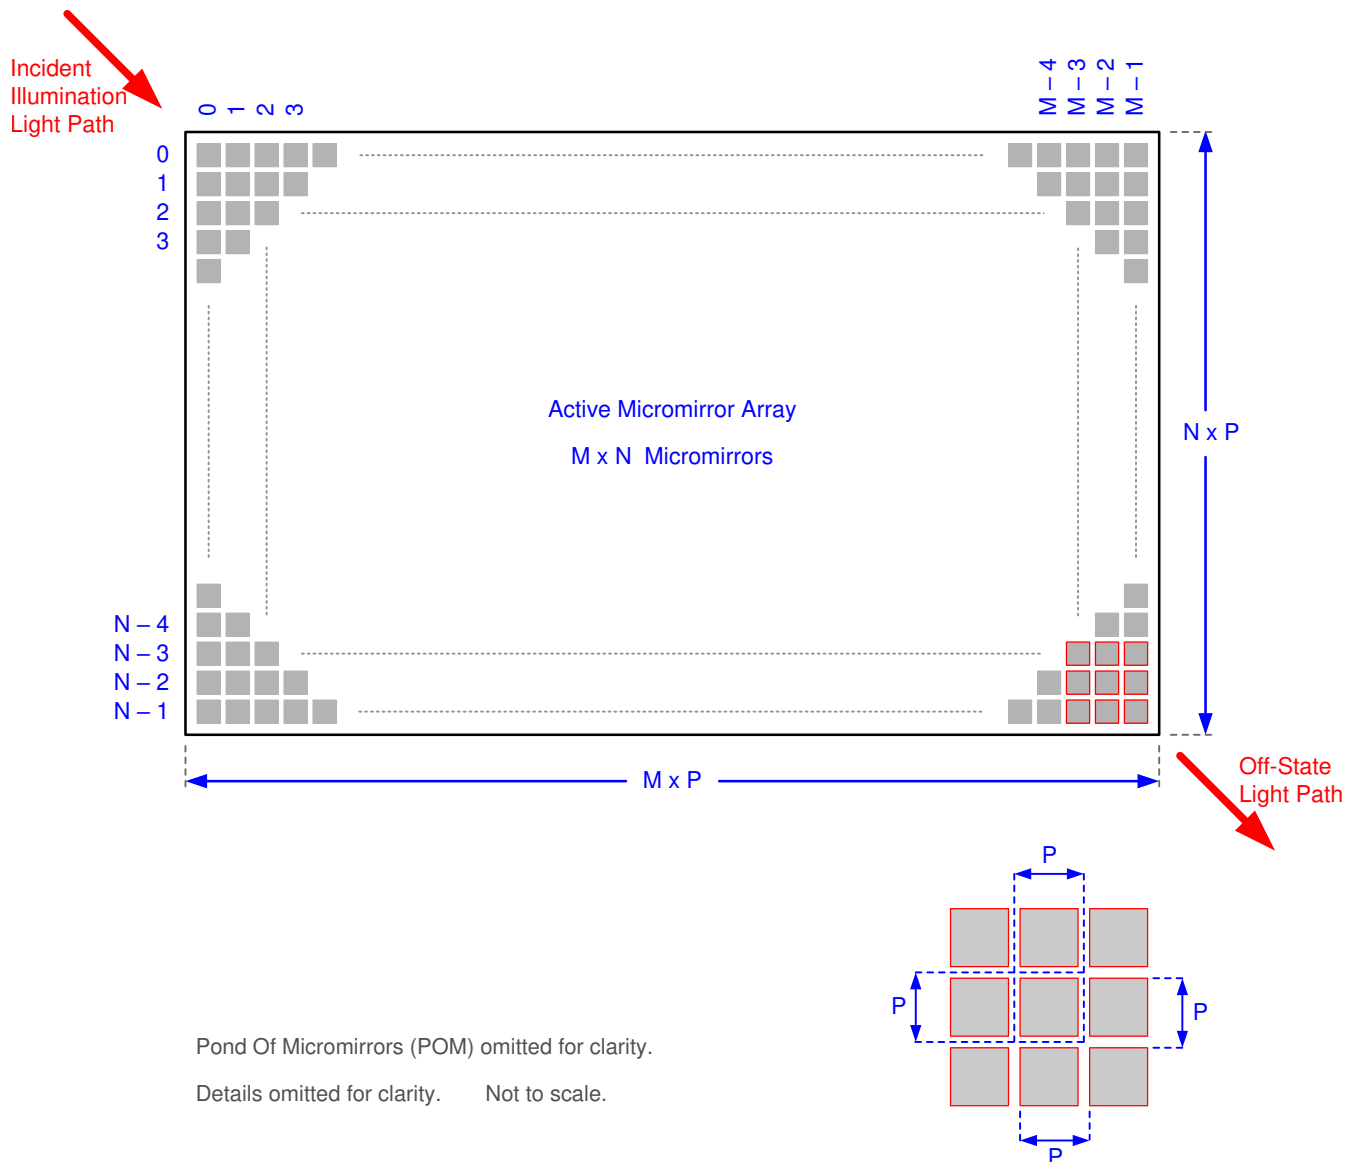

图 6-10. Micromirror Array Physical Characteristics
- (1) See Figure 6-10.
- (2) The structure and qualities of the border around the active array includes a band of partially functional micromirrors called the POM. These micromirrors are structurally and/or electrically prevented from tilting toward the bright or ON state, but still require an electrical bias to tilt toward OFF.